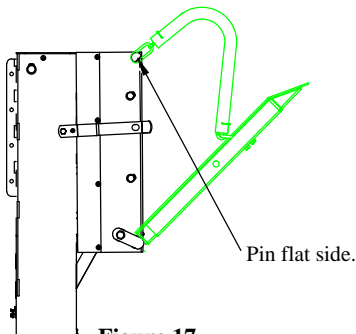

Figure 17
1. **Position** the platform and platform chain as shown in Figure 17.